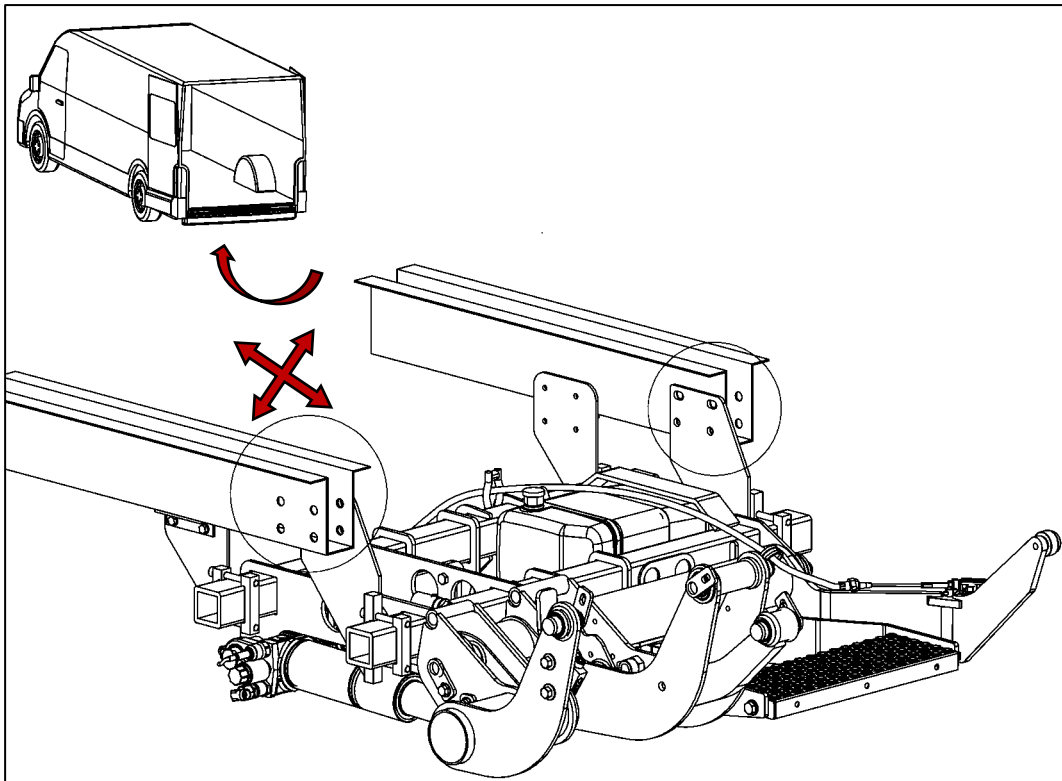

Fig. 25
- Line up the installation adapters on the lifting gear with the manufacturer's holes in the vehicle chassis (see Fig. 25).